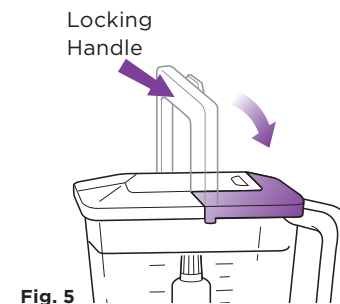

Fig. 5
- 3 Place the corresponding lid onto the container with the locking handle in the upright position and the pouring spout on the corner opposite the container's handle. Align the arrows (▼) located on the lid and container's handle. Ensure that the lid is completely seated and press the lid down into the container. Press the locking handle down so that the latches on the lid fit under the tabs on the container. (Fig. 5)